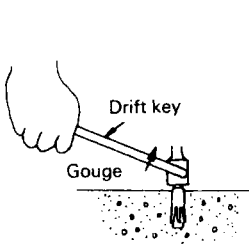

Fig. 8
- (3) After cleaning out dust with a syringe, attach the plug to the anchor tip and drive in the anchor with a hand hammer.
- (4) After driving in the anchor, use the drift key to separate the anchor. (Fig. 8)